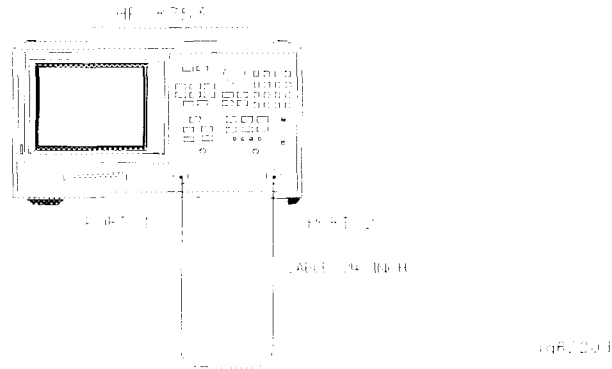

Figure 4-34. Test Port Magnitude Compression Test Setup
- 1 Connect the equipment as shown in Figure 4-34.